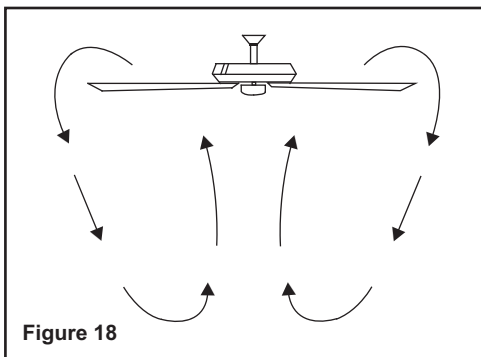

Figure 18
**Cool weather** - (Clockwise direction) An upward airflow moves warm air off the ceiling area as shown in Figure 18. This allows you to set your heating unit on a lower setting without affecting your comfort.